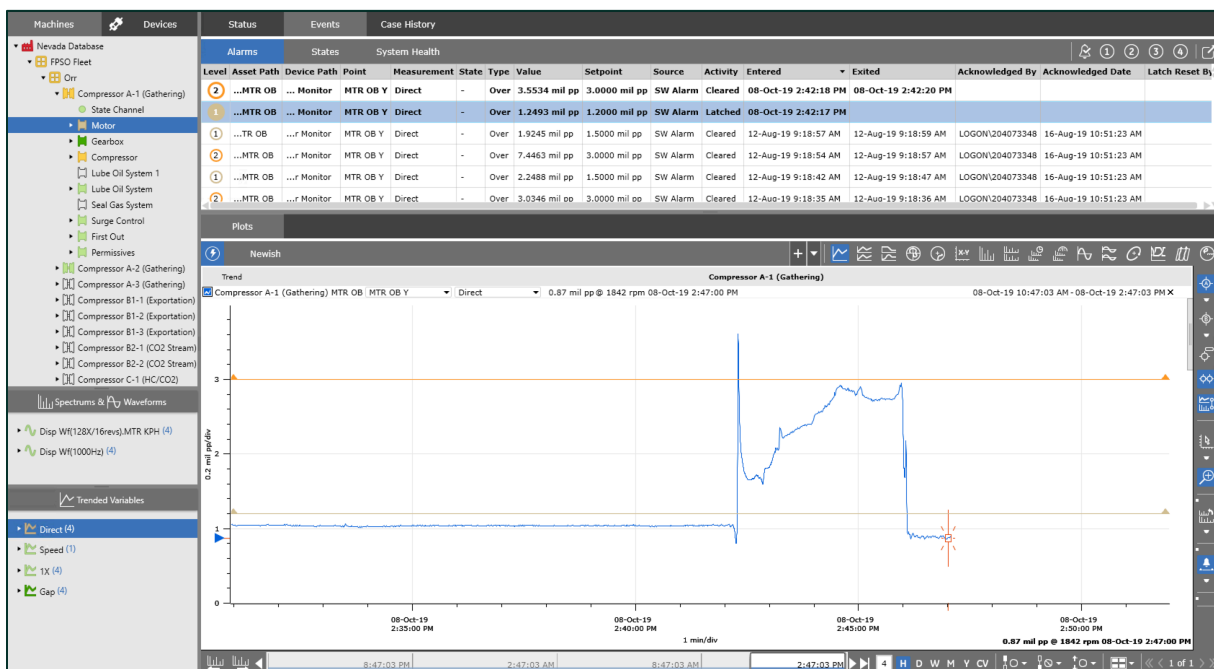

Figure 22: Latched Alarm in Event List, alongside Trend plot showing data below setpoint trigger
- When data goes below the setpoint trigger, the alarm Activity is updated to "Latched", indicating that the alarm has not cleared because latching is enabled (Figure 22)